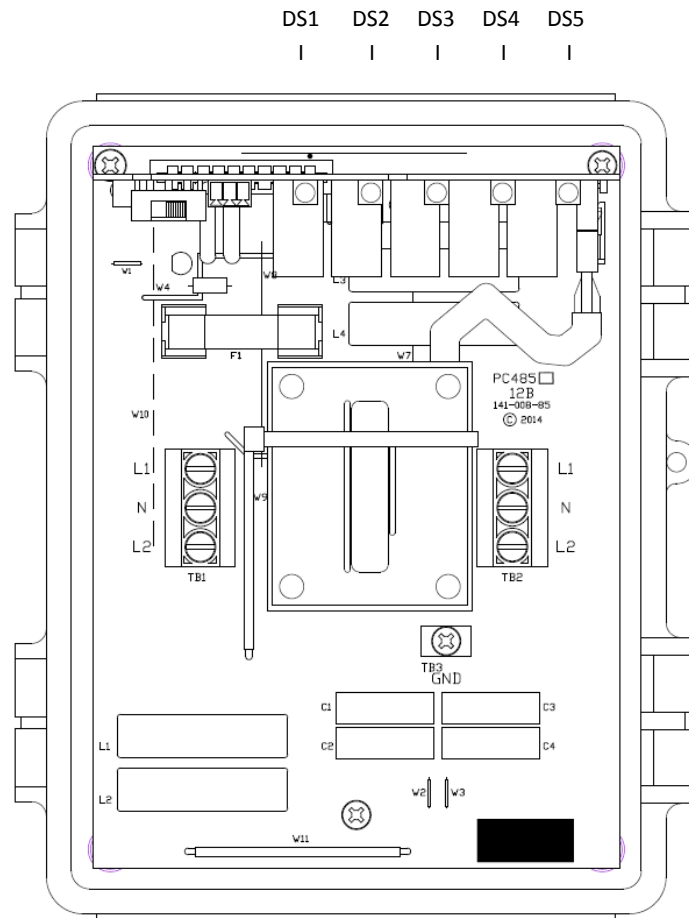

Figure 3: Front view with "-UFP" option
- Plug status board in as shown in figure 3. Note: Board is polarized and will only plug in one way – with the longer side toward the main board.
b) Apply power and observe the following (See figure 3):
- 1) The green LED on the main board indicates that the cartridge fuse(s) is (are) functional when power is present. Refer to figure 3.
- 2) On the status board, there are 4 or 5 LEDs depending on model. On the **standard** status board, from left to right, these are numbered **DS5, DS4, DS3, DS2, and DS1**. On the **optional** status board (-UFP models), from left to right these are numbered **DS1, DS2, DS3, DS4, and DS5**. Refer to figure 3 above.
If there exists a reduced protection scenario in the protector (one or more lights extinguished), the beeper will sound. Beeper mode is shipped from the factory in “On” position. See figure 3. If you do not want the beeper to sound during a reduced protection situation, then remove power to protector, and slide the mute switch, located on the top edge of the status board, to the left position. Reapply power.
The remote relay terminal block is located on the top edge of the status board, just to the right of the mute switch. See figure 3. **Only the outer two contacts (Common and Normally Closed) are used.** Do not use center port. See figure 3 below.
If the protection module is damaged, it will need to be replaced along with the fuses on the main board. Refer to figure 3.
- e. Plug status board in as shown in figure 3. Note: Board is polarized and will only plug in one way – with the longer side toward the main board.